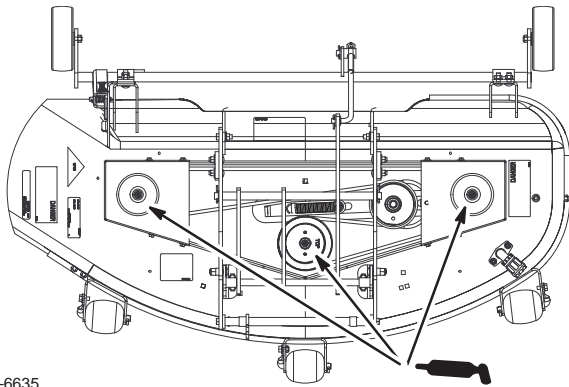

Figure 31
1. Lubricate the blade spindles (Fig. 31). The side discharge model is shown, the rear discharge model will have the same spindles to grease.